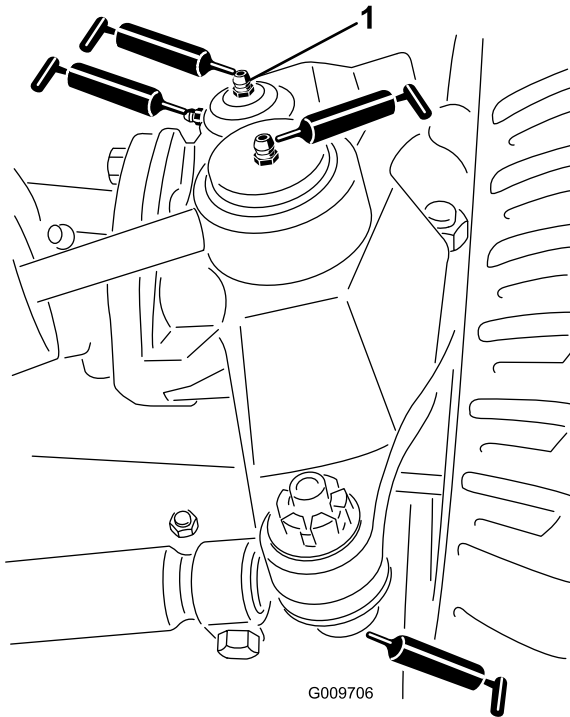

Figure 25
- Steering cylinder ball joints (2) (Figure 25)
- Tie rod ball joints (2) (Figure 25)
- King pin bushings (2) (Figure 25). **The top fitting on the king pin should only be lubricated annually (2 pumps).**